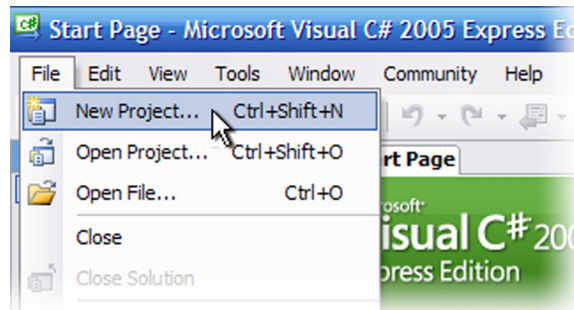

Figure 4: New Project
- From the 'File' menu select 'New Project' (Figure 4: New Project)